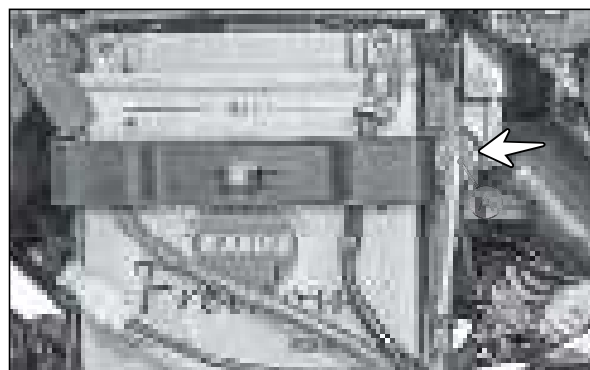

Fig. 5.90
- Remove the clamp by removal of the CRR pan head screw (M6x16 - 1 No.) (A) and take out the battery assembly. (Fig. 5.90)